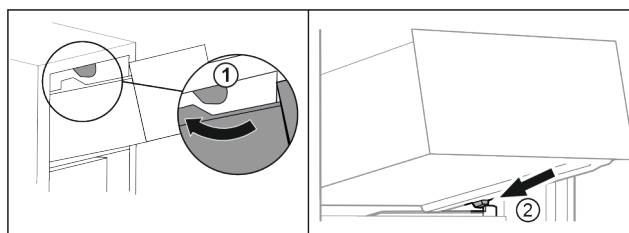

Fig. 94
- Guide drawer around the upper stoppers. Fig. 94 (1)
- Place drawer at an angle behind the lower stoppers onto moulded rib. Fig. 94 (2)